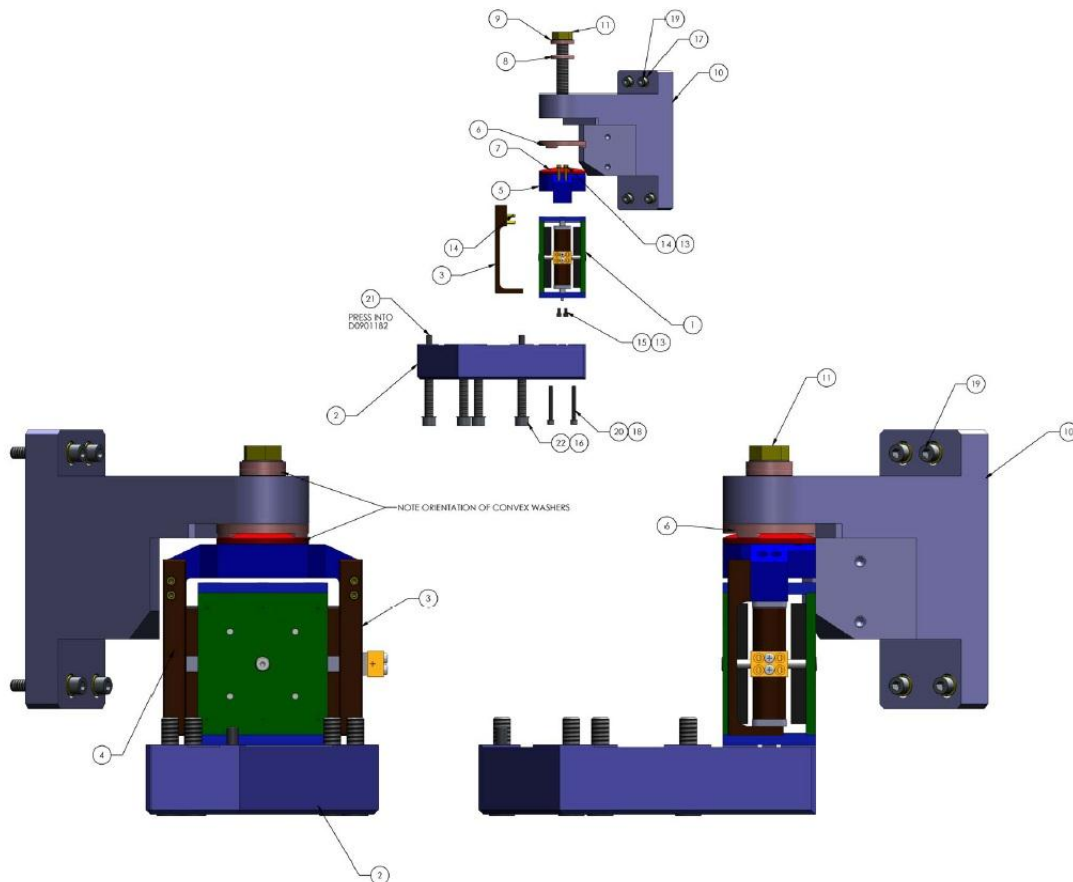

Figure 144: D0902531 Stage 1-2 Vertical Actuators Assembly Drawing
- Insert (1) 1/2"-13 x 2.5" HHCS Bolt & D0902157 & D1000679 Spherical Washers against D0902236 Stage 1-2 Vertical Actuator Bracket, paying attention to properly order of these Spherical Washers (see Figure 144).
- Attach D0902236 Stage 1-2 Vertical Actuator Bracket to D0902278 Stage 1 L4C Wall, by inserting (4) 1/4-20 x 1.5" SHCS & (4) 1/4 Vented Washers, loose enough to allow movement of D0902236.
- Add D0902156 & D1000678 Spherical Washers on top (see Figure 144 for the right order), while holding screw in place.
- Lower D0902531 Stage 1-2 Vertical Actuator Assembly into place (see Figure 144.)
- Insert and snug (5) 3/8-16 x 1.75" SHCS & (5) 3/8 Vented Washers through D0902161 Stage 1-2 Vertical Actuator Magnet Mount into D0901520 Stage 2 Mid Plate.